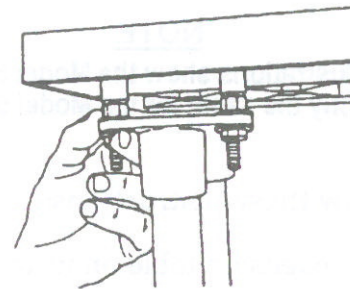

Fig.10
10. As needed, adjust the top nuts located on the infeed side of the extension table, in order for the straightedge to be level across both the worktable and the extension table. See Fig.10.
12. As needed, adjust the top nuts located toward the outfeed side of the extension table, in order for the straightedge to be level across both the worktable and the extension table. See Fig.10.